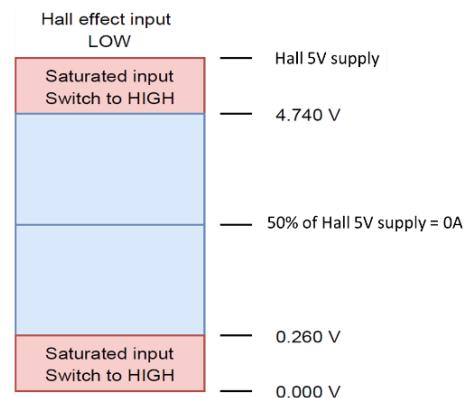

Figure 2.10: Hall sensor voltage levels
- If a dual-channel Hall sensor is used, the BMS will always use the 'low' current input until this is saturated (the limits are user-configurable). Once the 'low' current channel is saturated, the BMS will then switch to use the 'high' current input, please see Figure 2.10. As a dual channel Hall sensor, the system has been tested with the DHAB Hall effect current sensor family from LEM.
- If a single channel Hall sensor is used, the 'Hall high' input (J2 Pin 3) on the BMS must be connected to the HALL_5V pin (J2 Pin 13). This ensures that if the LOW channel is saturated in either positive or negative (please see Figure 2.10), the BMS will register a maximum input current with a positive sign. Once a Hall sensor has been installed and configured via the BMS creator (see section 5) it is strongly recommended: